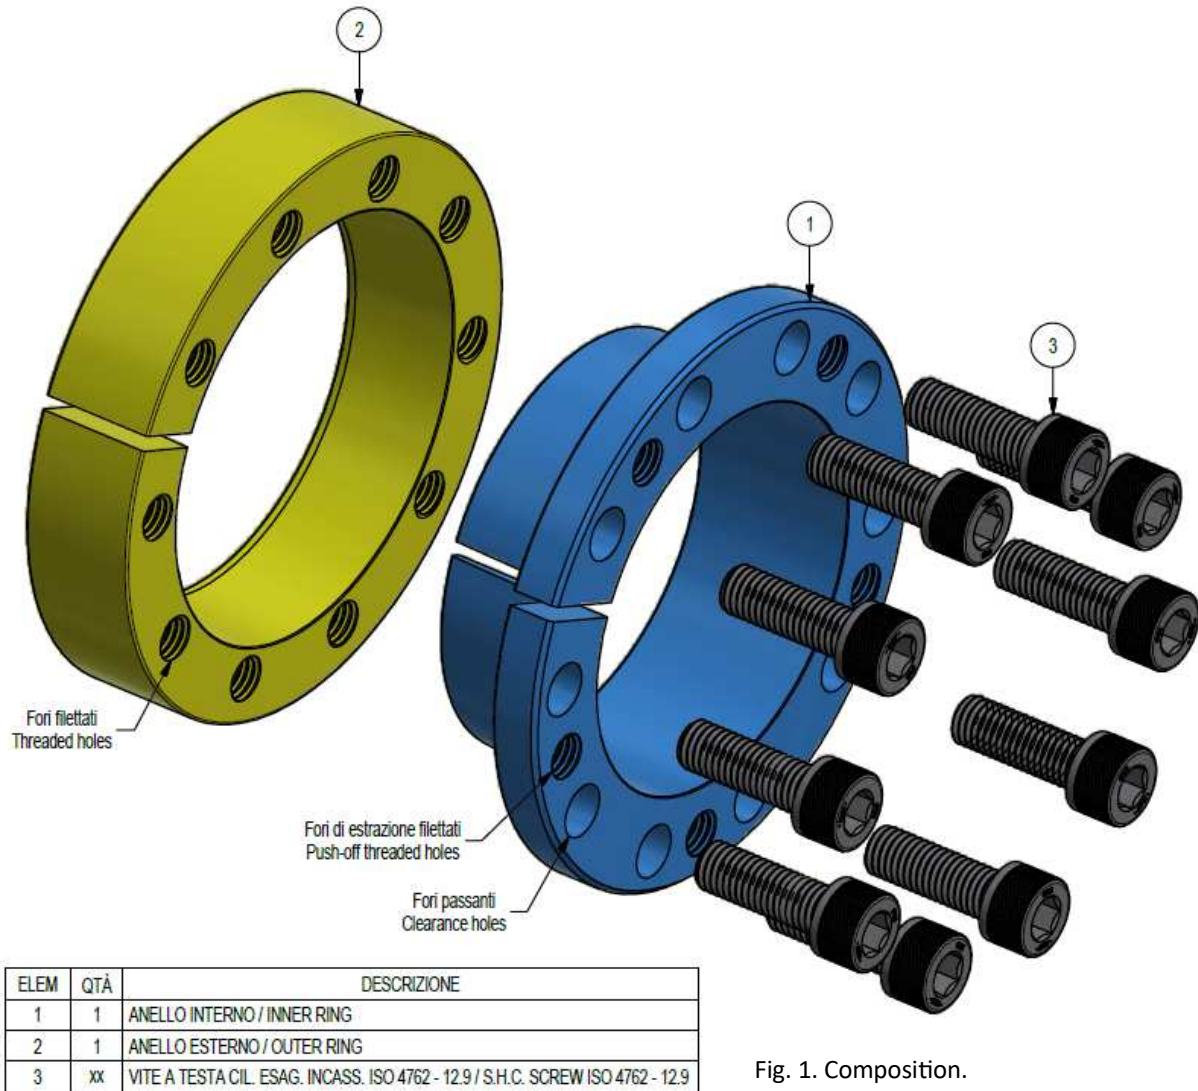

Fig. 1. Composition.
- Locking Assemblies are supplied ready for installation and are composed of (fig. 1):